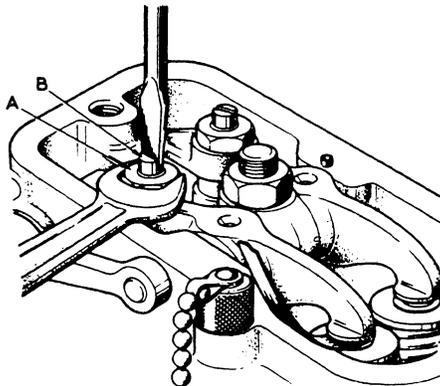

FIG. 9
**39. TO ADJUST VALVE ROCKERS Fig. 9**
- (a) To adjust the clearance, set the engine with valves closed (TDC of firing stroke), loosen the locknut (A) and turn the rocker adjusting screw (B) with a screwdriver. Measure the gap with a feeler gauge, and when the correct setting is obtained (see Technical Data) retighten the locknut. Recheck the gap.